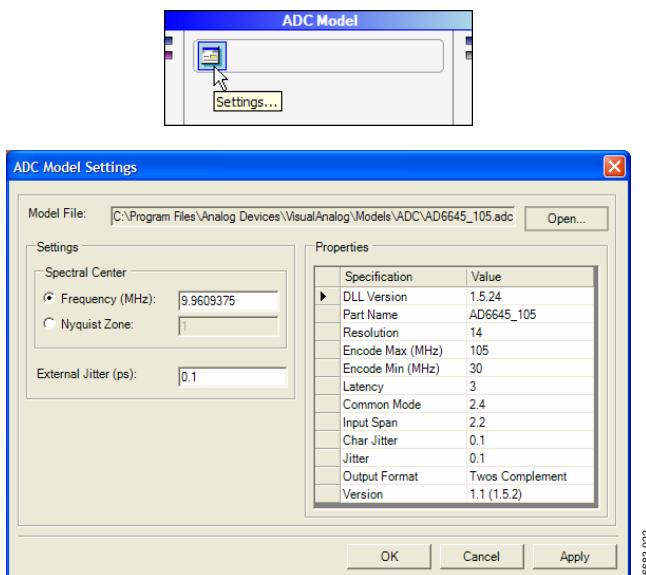

Figure 24. ADC Model and Settings Form
2. In **ADC Model**, click the **Settings...** button and click **Open** to browse for and select the **AD6645_105.adc** model file. This file is located in the **Models\ADC** subdirectory in the VisualAnalog path. When the model opens, the file name appears in the **Model File** text box, along with information about that model in the **Properties** grid (see Figure 24). Click **OK**.